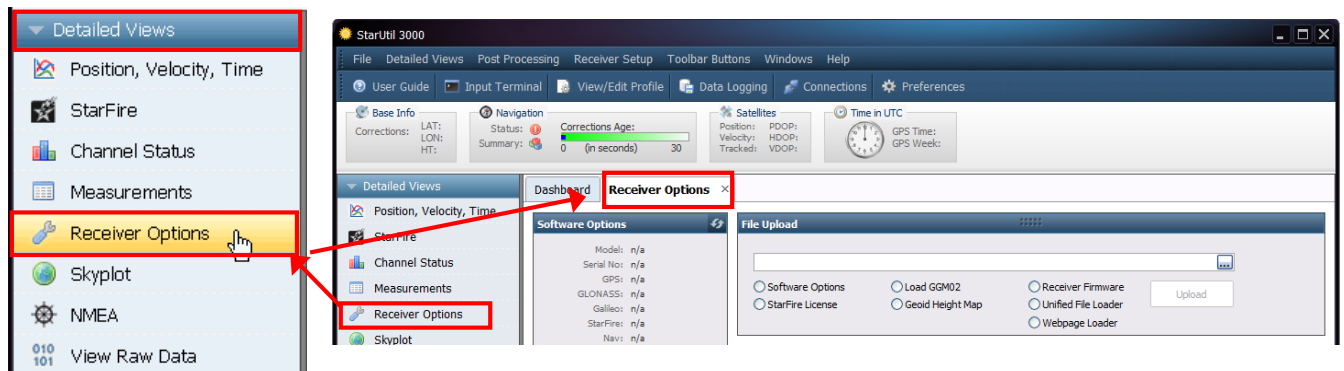

Figure 56: Receiver Options
1. Click *Receiver Options* on the *Detailed Views* menu to open the *Receiver Options* tab (see Figure 56).